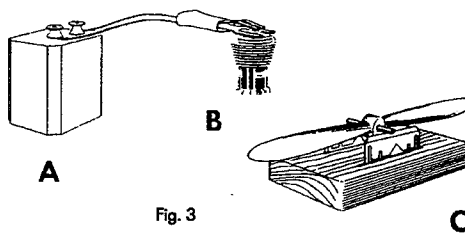

Fig. 3
4. Procure a 1½ volt dry cell battery, #6 or equivalent, and connect it with 2 flexible insulated wires to the glow plug clip as shown in the diagram A and B-Fig. 3. Do not use a stronger battery. If you do, the plug will burn out. The connections should be soldered to insure good contact, and taped to prevent bare ends of wire from getting together and shorting the battery. Be sure the battery is a good one. Your dealer sells batteries and glow plug clips. The Thimble Drome plastic mounted glow plug clip with wires already attached is recommended, and requires no soldering. (Cat. #755—35a).
the edges of the blades. Fit a drill or shaft through the hole and rest the shaft on razor blades set in wooden blocks as shown in C-Fig. 3. Sand the heavy blade until the propeller will balance in a horizontal position. Care must be taken to do the sanding without spoiling the airfoil characteristics of the propeller blades. Caution: use only nylon or wooden props. Styrene props are extremely dangerous on these engines.
5. Connect the battery by snapping the clip on the glow head B-Fig. 3.